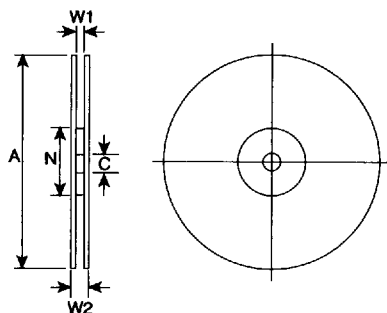

Fig.4 Reel Dimensions
6.1 Tape will be wound on anti-static plastic reels (See Figure 4)